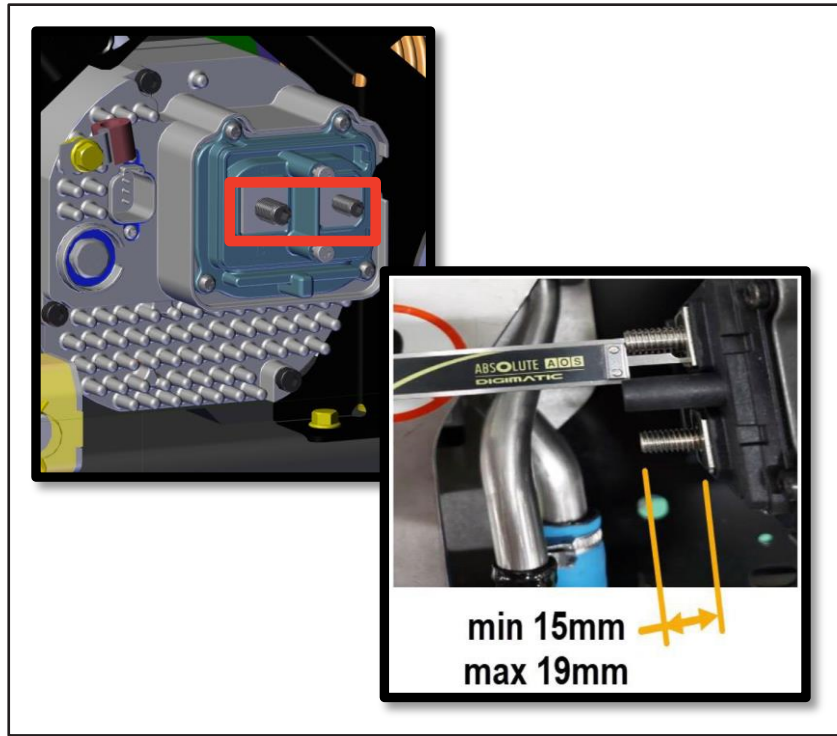

Figure 6 - Measuring the length of positive and negative studs
- 1.8. Utilizing a measuring device. Measure the length of both the positive (+) and negative (-) studs length, the stud length should be between 15mm and 19mm (see figure 6).